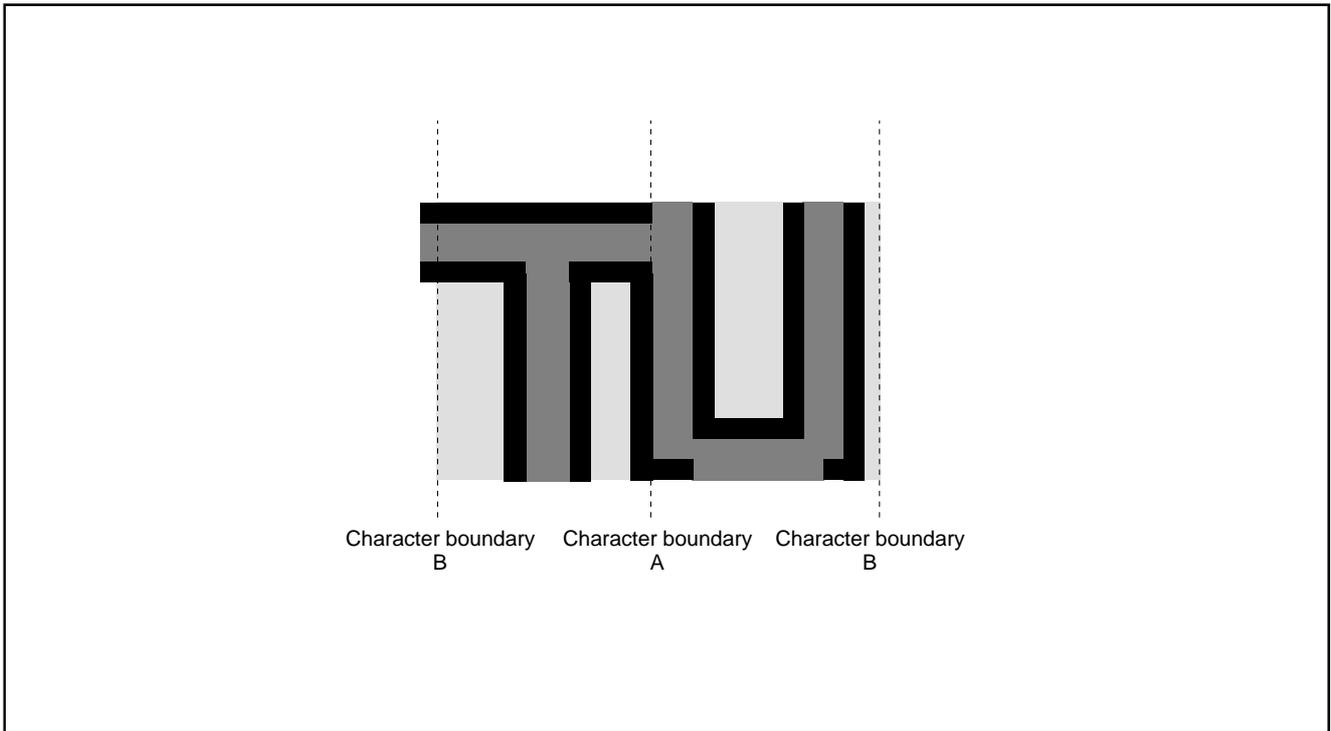

Fig. 8.11.22 Border Priority
- 2 : When the border dot overlaps on the next character font, the character font has priority (refer to Figure 8.11.22 A).
When the border dot overlaps on the next character back ground, the border has priority (refer to Figure 8.11.22 B).
- 3 : The border in vertical out of character area is not displayed (refer to Figure 8.11.22).